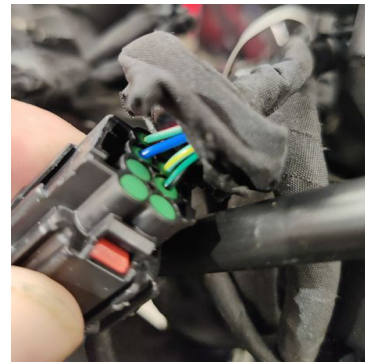

figure 17
13. Remove the tape surrounding the black connector & peel back the tape to just enough to expose the color of wires (figure 17). Disconnect the connector.